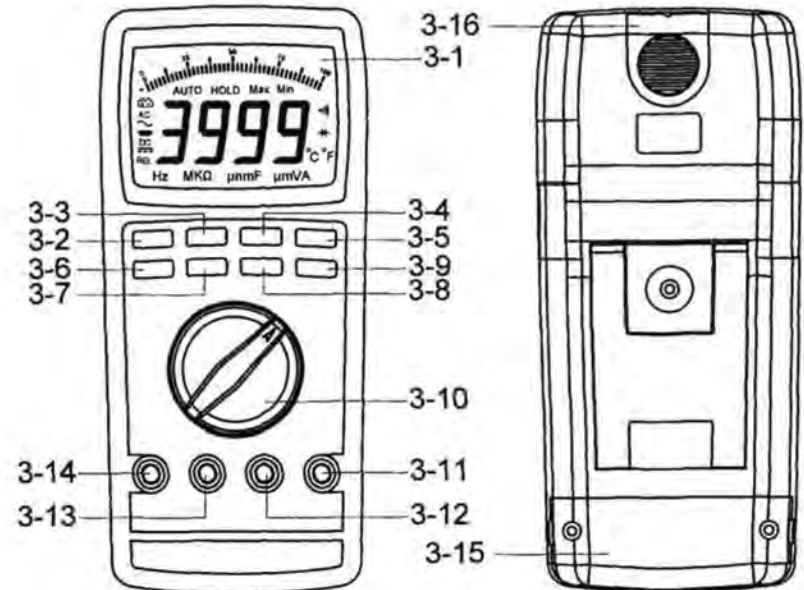

Fig. 1
- Push the " PEAK button " ( 3-3, Fig. 1 ) > 3 second, the display will show " CAL " marker, then show zero value, it will execute the offset ( zero ) procedure.
- Push the " PEAK button " ( 3-3, Fig. 1 ) once while again, the display will show " PMax " marker. Now the meter is ready for the " Peak Max Hold " operation. Push the " PEAK button " ( 3-3, Fig. 1 ) once while again, the display will show " PMin " marker. Now the meter is ready for the " Peak Min Hold " operation.
- Under operate the " Peak Hold " function ( display show the marker of " PMax " or " PMin " ), if intend to cancel the Peak Hold function just push the " PEAK button " ( 3-3, Fig. 1 ) > 2 seconds continuously.
- 1) During the measurement, pushing the " Hold button " ( 3-5, Fig. 1 ) once a while will freeze the measured value & the LCD will indicate " HOLD " symbol.
- 4) Used the " RANGE button " 3-6, Fig. 1 " to select the desired manual range.
- 5) Under the operation of " auto range " mode, push the " Range button " ( 3-6 Fig. 1 ) once will execute the " Manual Range " mode and hold the range, the LCD will show the " MANU " marker.
Under the manual range operation, push the " Range button " ( 3-6 Fig. 1 ) > 2 seconds, will return to auto range operation.
- 6) ***Under the ACV measurement ( 5-2 ) or ACA measurement ( 5-4 ), if push the " VAHz button " ( 3-7, Fig. 1 ) once a while until the display show the " K Hz " marker, at the same time will also show frequency value of the measured ACV or ACA.***
- 1) Plug in the optional " Type K Temperature probe, TP-11 " into the input terminals, " V input terminal " ( 3-11, Fig. 1 ) and the " COM input terminal " ( 3-12, Fig. 1 )
- 2) Select the " Function rotary switch " ( 3-10, Fig. 1 ) to the " Temp. " position.
- 1) During the measurement of ACV, ACA, DCV, DCA, ohm, Capacitance, Frequency and Temperature, the circuit will memorize the last measured values if push the " REL. button " ( 3-4, Fig. 1 ) at once, then LCD will show zero value & a " REL " indicator.
- 1) Select the "Function rotary switch" (3-10, Fig. 1) to the "  $\text{+}$  " position.
*\* If the measured capacity existing the polarity, then should connect the " + " polarity of the measured capacitor to the " V " terminal (3-11, Fig. 1), connect the " - " polarity of the measured capacitor to the " COM " terminal (3-12, Fig. 1),
- 4) Under the operation of " auto range " mode, push the " Range button " (3-6 Fig. 1) once will execute the " Manual Range " mode and hold the range, the LCD will show the " MANU " marker.
Under the manual range operation, push the " Range button " (3-6 Fig. 1) > 2 seconds, will return to auto range operation.
- 1) Connect BLACK test lead into " COM " terminal (3-12, Fig. 1).
- 2) Connect RED test lead into " V " terminal (3-11, Fig. 1).
- 3) Select the "Function rotary switch" (3-10, Fig. 1) to the " Hz " position.
- a. When not use the meter, should rotate the " Function rotary switch " ( 3–10, Fig. 1 ) to the " OFF " position.
**Press the " MAX/MIN button " ( 3–2, Fig. 1 ) while turning the " Function switch " from the " OFF " position to the desiring function position.**
- 6) Under the operation of " auto range " mode, push the " Range button " ( 3-6 Fig. 1 ) once will execute the " Manual Range " mode and hold the range, the LCD will show the " MANU " marker.
During the measurement, if push the " VAHz button " ( 3-7 Fig. 1 ) once, until the LCD show the " Hz " marker and the display will show the frequency value of the measurement signal.
- 3) Select the " Function rotary switch " ( 3-10, Fig. 1 ) to the "  " position.
- 1) Connect BLACK test lead into " COM " terminal ( 3-12, Fig. 1 ).
- 2) Connect RED test lead into " V " terminal ( 3-11, Fig. 1 ).
- 3) Select the " Function rotary switch " ( 3-10, Fig. 1 ) to the " V " position.
- 4) Push the " AC/DC button " ( 3-9, Fig. 1 ) to select the " ACV " or " DCV " measurement,
*During the measurement, if push the " VAHz button " ( 3-7 Fig. 1 ) once, until the LCD show the " Hz " marker and the display will show the frequency value of the measurement signal.*
- 2) Connect RED test lead into "  $\Omega$  " terminal ( 3-11, Fig. 1 ).
- 3) Select the " Function rotary switch " ( 3-10, Fig. 1 ) to the "  $\Omega$  " position.